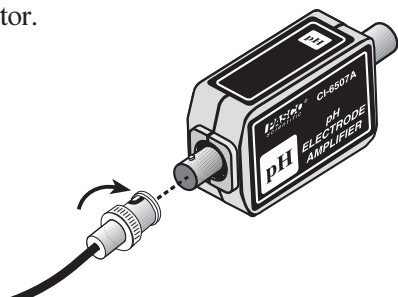

Figure 2
4. Connect the pH electrode to the BNC connector of the pH electrode amplifier (Figure 2). Insert the plug at the end of the electrode cable over the BNC connector, and twist the plug one quarter turn clockwise to lock it onto the BNC connector.